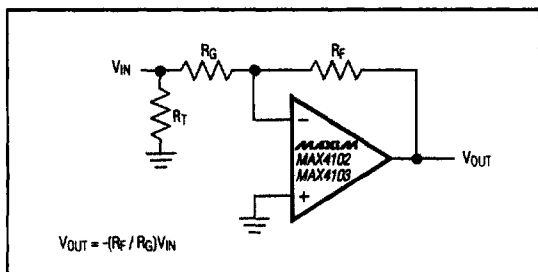
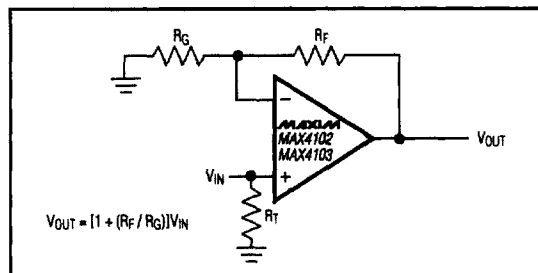

Figure 1a. Inverting Gain Configuration
Figure 1b. Noninverting Gain Configuration
The MAX4102/MAX4103 are voltage-feedback op amps that can be configured as an inverting or noninverting gain block, as shown in Figures 1a and 1b. The gain is determined by the ratio of two resistors and does not affect amplifier frequency compensation.
**Note:** Refer to Figure 1a for inverting gain configurations and Figure 1b for noninverting gain configurations.  $R_T$  is calculated for 50 $\Omega$  systems.